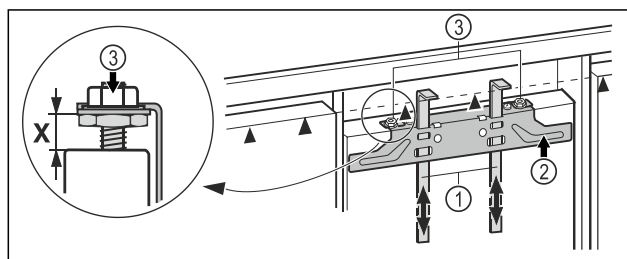

Fig. 20
- Push the assembly aids *Fig. 20 (1)* up to unit door height. Lower stop edge ▲ of the assembly aid = upper edge of the unit door to be assembled.
- Unscrew the fastening bar *Fig. 20 (2)* using the lock nuts *Fig. 20 (3)*.